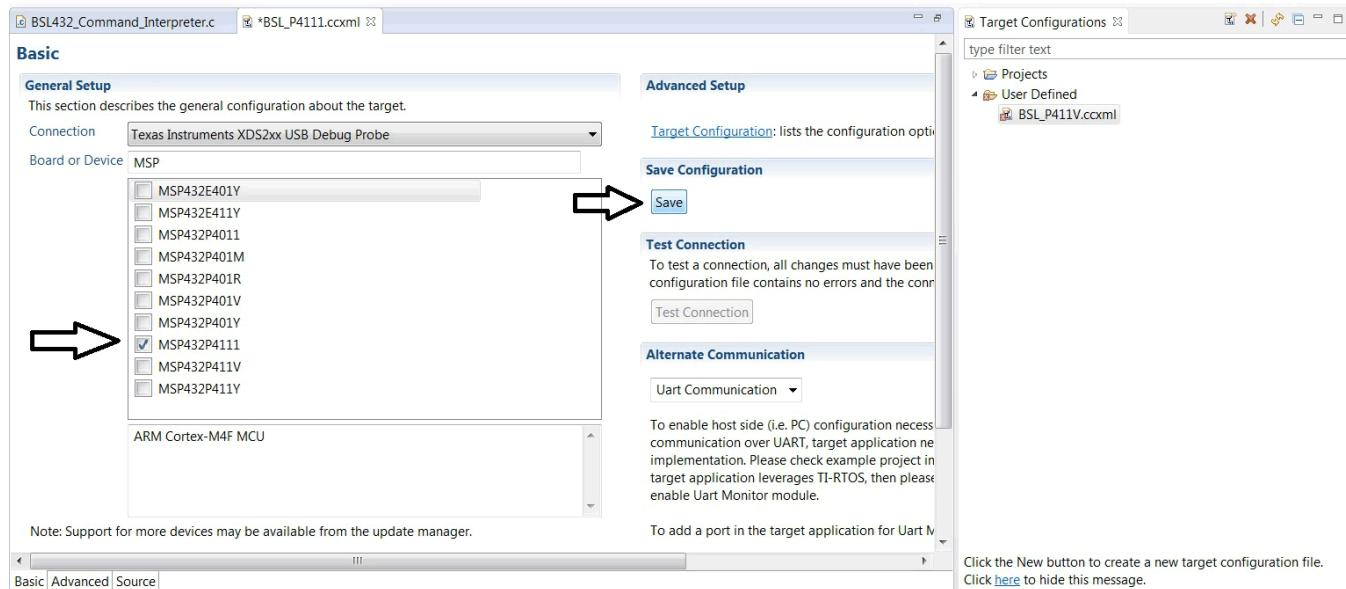

Figure 13. Setup Configuration and Save
4. After the target configuration file is created, select the Debug Probe connection and the Device. Figure 13 shows an example in which the connection uses the XDS200 debug probe and the MSP432P4111 device. After making the selections, click Save.